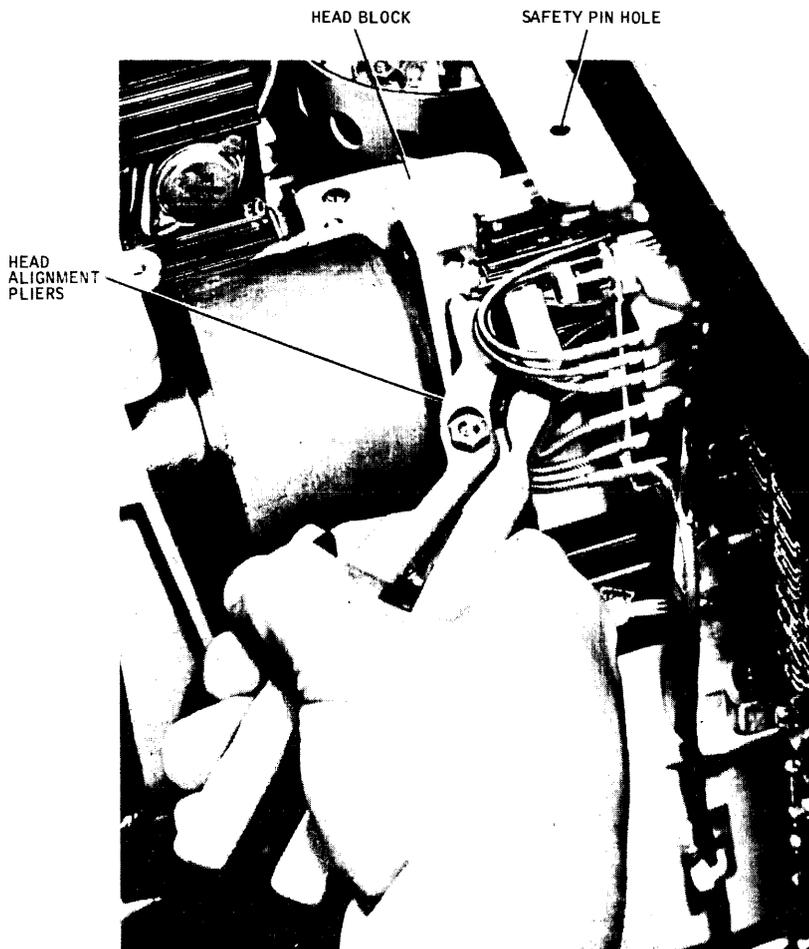

Figure 3-3. Head Alignment Pliers in Use
14. Remove the transparent air shroud covering the carriage and heads, and insert the safety pin down through the hole in the top plate of the cam tower and into the carriage T-block assembly. See Figure 3-3.
17. Run the thumbscrew on the head alignment pliers out several turns, and carefully insert the round and rectangular pins of the pliers into the T-block hole and head slot of the head to be adjusted. See Figure 3-3. Then run the thumbscrew in until it just contacts the other plier handle to act as a calibration stop.